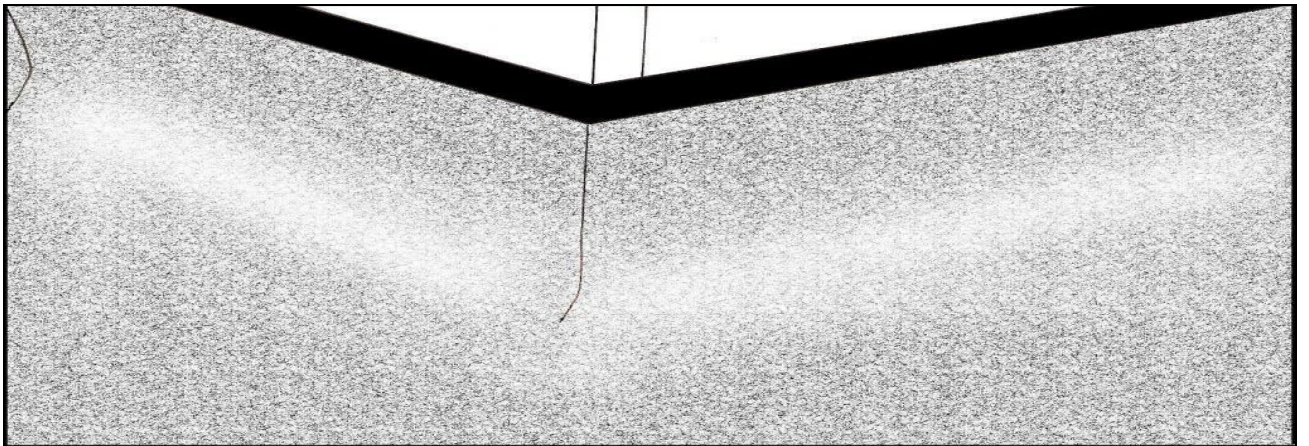

Fig 10.
4. Cut in the front of the external corner and glue in position. (See Fig. 10)